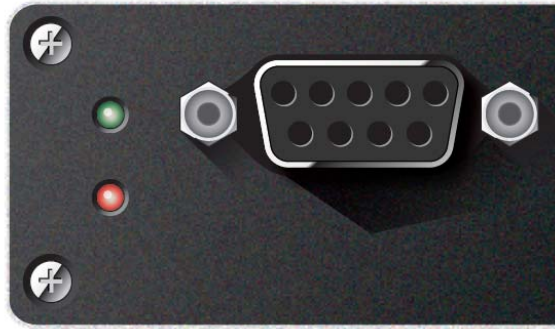

Figure 16: Indicator LED
- Open the tools, the main operation interface as the figure 16 shows: